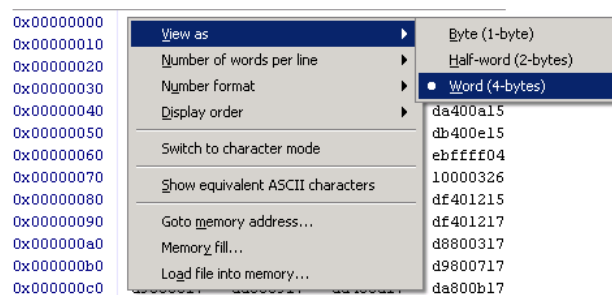

Figure 37. Setting the memory element size.
- Memory element size: the display can format the memory contents as bytes, half-words (2-bytes), or words (4-bytes). This setting can be configured by right-clicking on the Memory window, as illustrated in Figure 37.